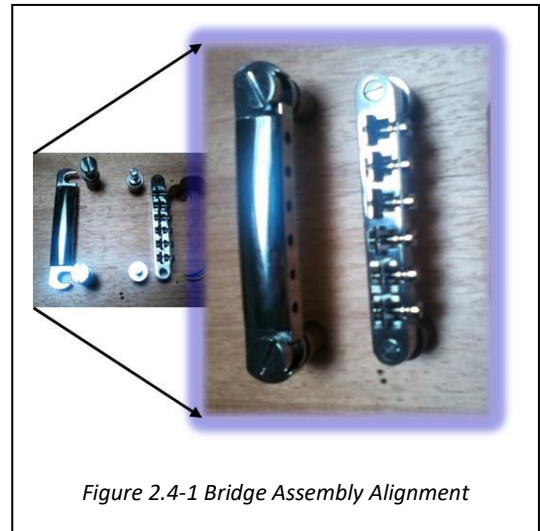

Figure 2.4-1 Bridge Assembly Alignment
| 2.4 | Check Bridge assembly (Figure 2.4-1) | - 3 - |
2.4 Check Bridge assembly (Figure 2.4-1)